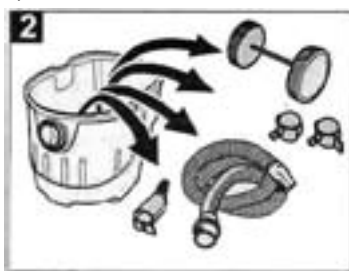

fig. 2
- take out the supplied components (fig. 2).